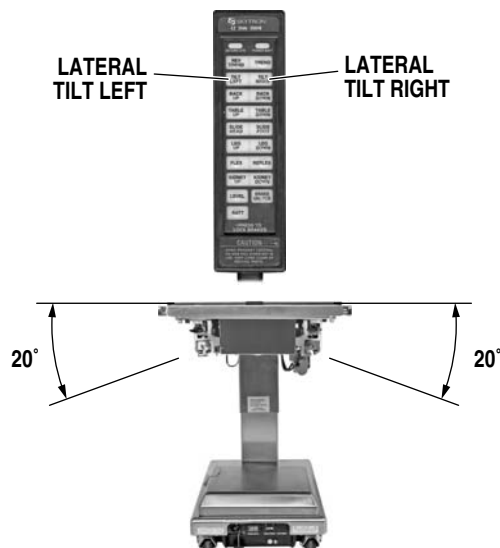

Figure 2-7. Lateral Tilt Positioning
**c. Lateral Tilt.** To achieve lateral tilt right (as viewed from the head end of the table), press the TILT RIGHT button (figure 2-7). Tilt of up to 20° may be obtained. To achieve lateral tilt left, press the TILT LEFT button. Tilt of up to 20° may be obtained.